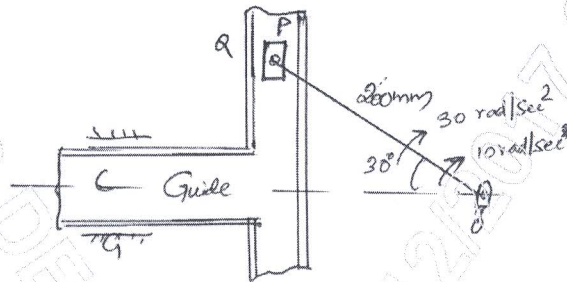

Fig.Q4(b)
- b. Fig.Q4(b) shows the scotch yoke mechanism. At instant shown figure, the crank OP has an angular velocity of 10 rad/sec . Determine velocity of the slide 'P'. (08 Marks)